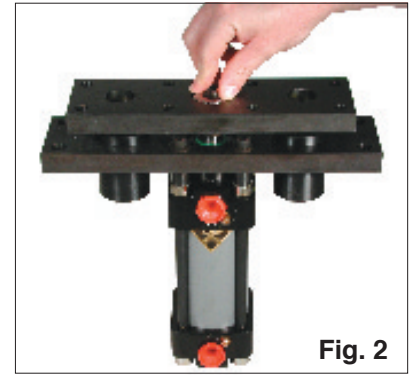

Fig. 2
3. Apply a removable thread lock compound to the threads on the center nut. Begin to thread the center nut on with your fingers, do not tighten (Fig. 2).